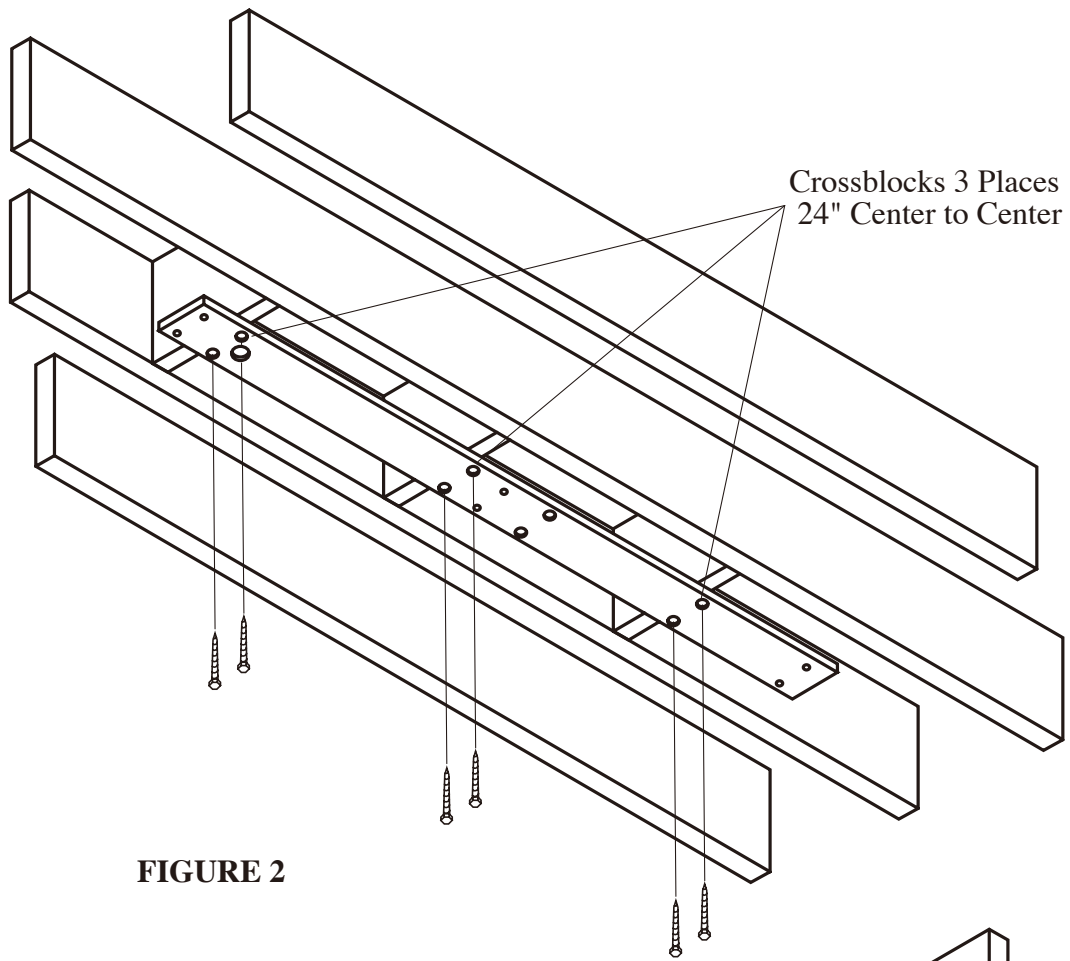

FIGURE 2
B) For conventional ceilings with **joists parallel** to the center line of the light, cross blocks must be installed in 3 places to allow mounting with **at least 6** (M8 x 76 mm) lag screws. (SEE FIGURE 2.)